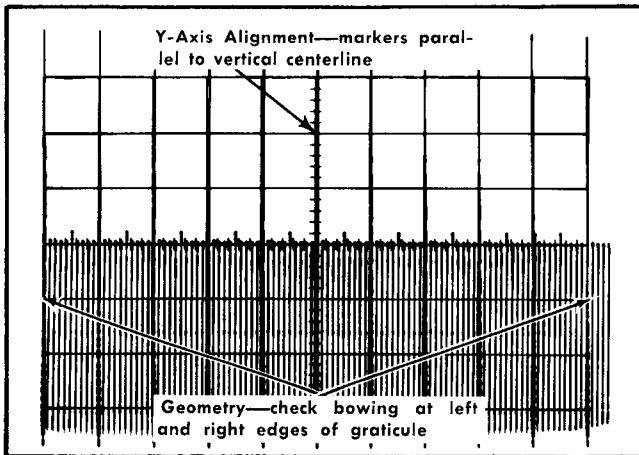

Fig. 5-1. Typical crt display showing good geometry and y axis alignment.
- Check—Bowling and tilt of markers over entire display area not to exceed 0.15 division (see Fig. 5-1).